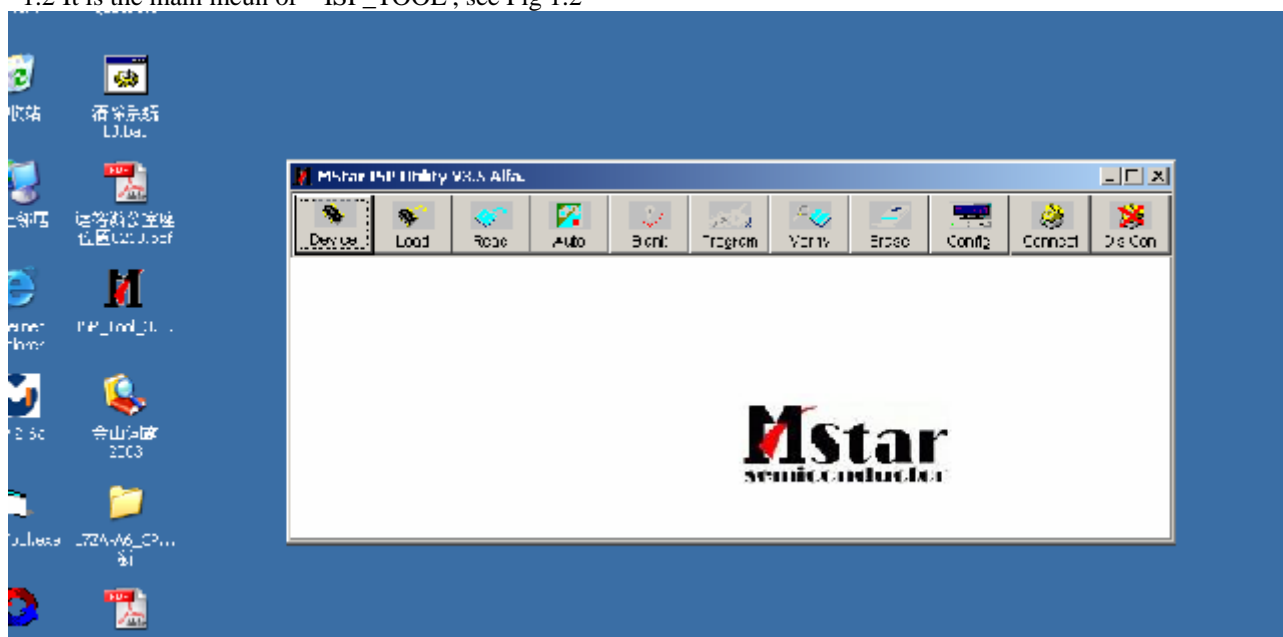

Fig. 1.2
1.2 It is the main menu of ISP_TOOL , see Fig 1.2